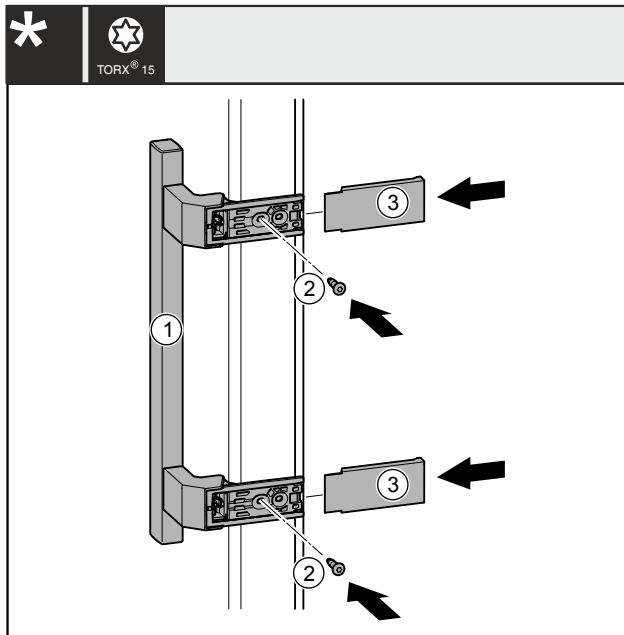

Fig. 42
- Place the handle Fig. 42 (1) on the opposite side.
- Tighten screws Fig. 42 (2) with screwdriver.
- Position the covers Fig. 42 (3) on the side and slide them on so that they click into place.